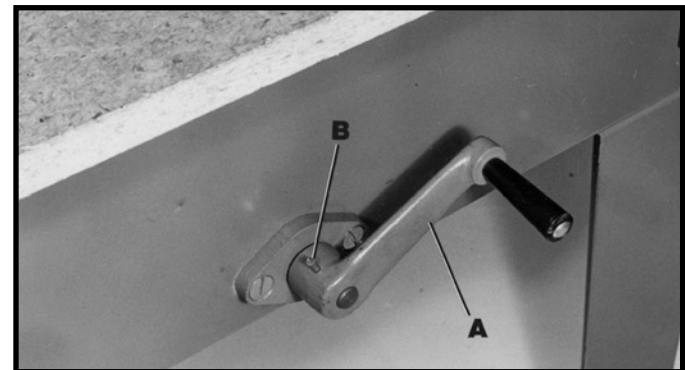

Fig. 6
Assemble elevating crank handle (A) Fig. 6 to rod in front of base using the roll pin (B).